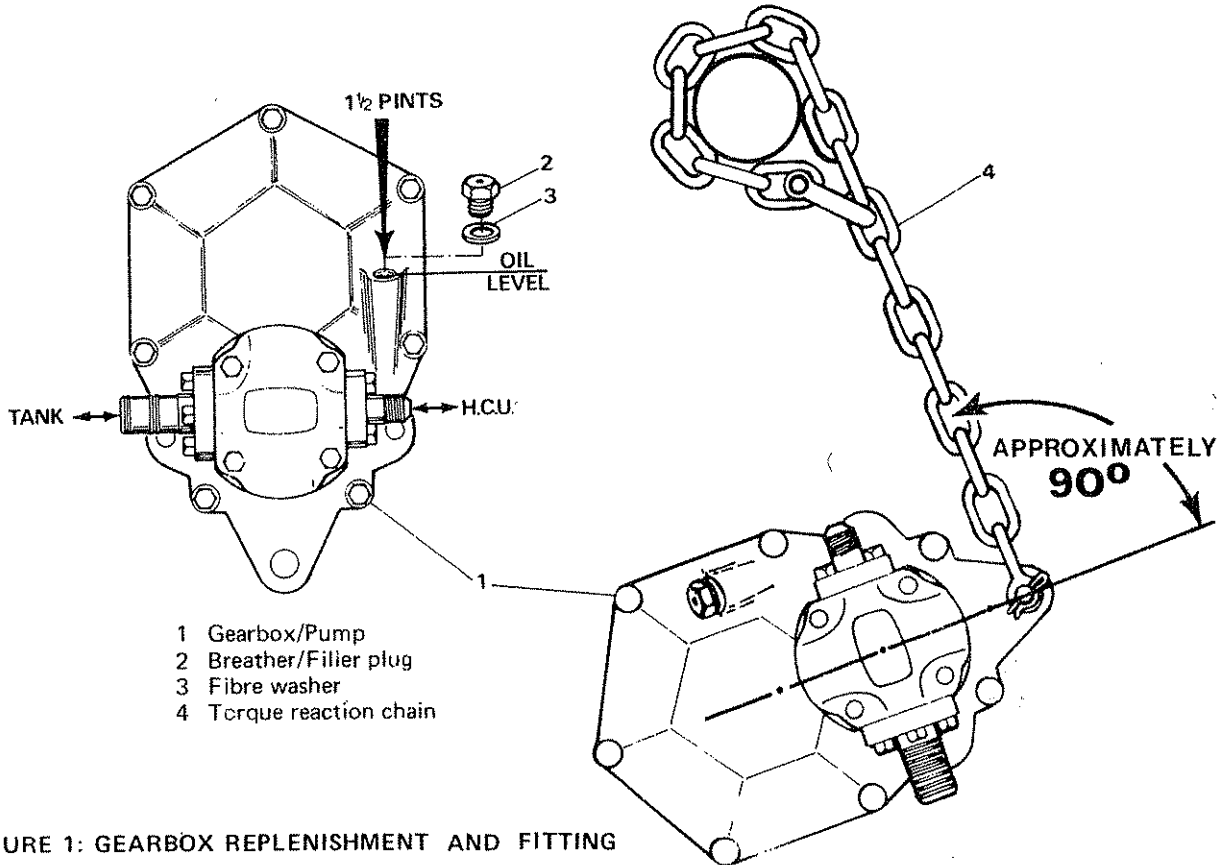
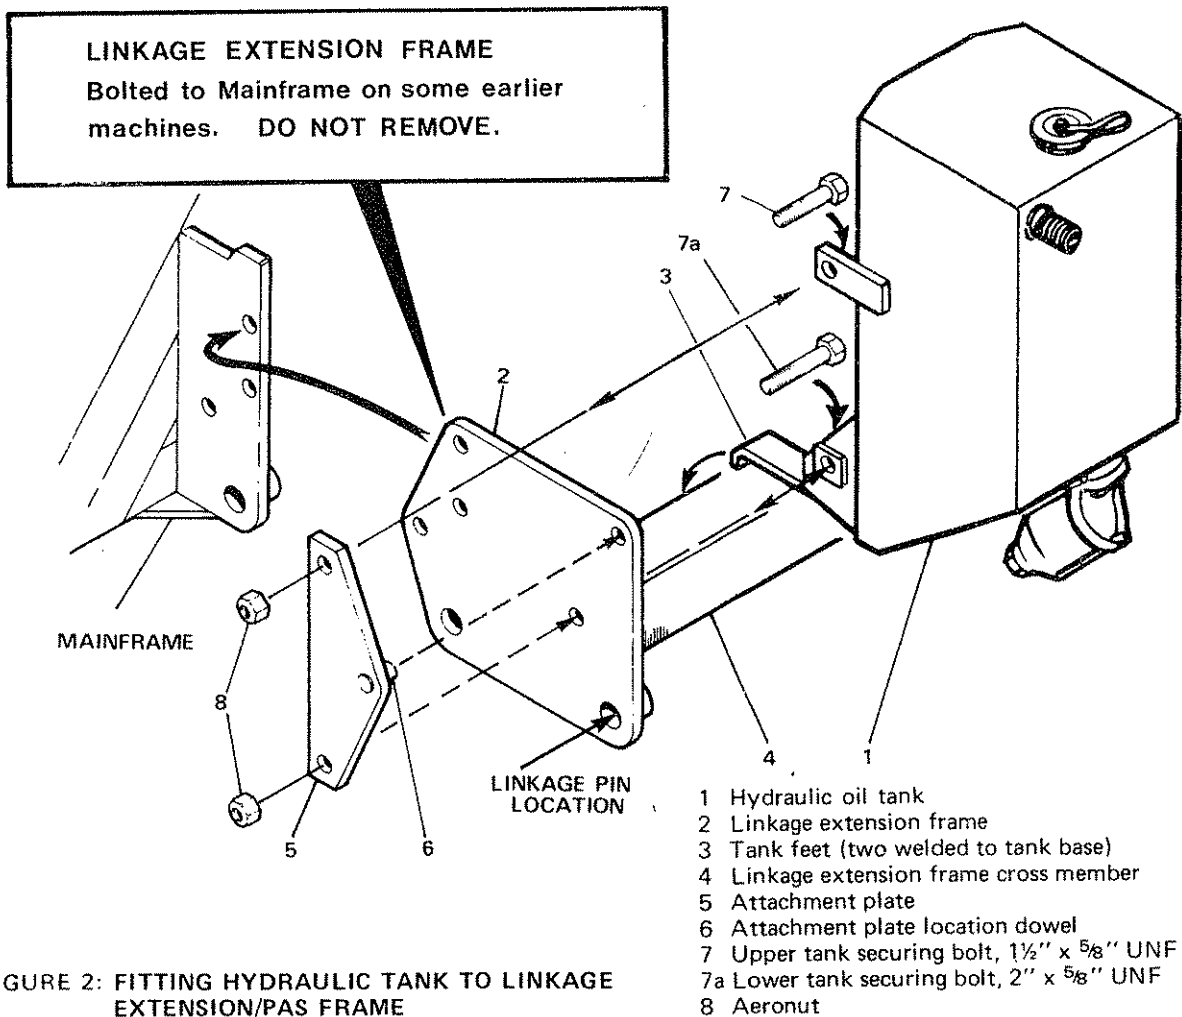

FIGURE 1: GEARBOX REPLENISHMENT AND FITTING
FIGURE 2: FITTING HYDRAULIC TANK TO LINKAGE EXTENSION/PAS FRAME
4. Refer to Figure 1.
- Remove the gearbox breather/filler plug (2) and replenish to the plug level with 1½ pints of oil, using AGRICASTROL EP 90/140 or recommended equivalent. Refit the breather/filler plug, ensuring that the sealing fibre washer (3) is fitted.
- Attach the torque reaction chain (4) to a suitable location on the tractor ensuring that the gearbox/chain centre lines are at 90 degrees.
5. Refer to Figure 2.
- The hydraulic tank assembly (1) can be fitted inside the PAS linkage extension frame (2) at either side, with the hose outlets and return filter facing towards the tractor.
- Select the side to which the tank assembly is to be mounted and position the tank with the two feet (3) correctly engaged onto the linkage extension frame crossmember (4).
- Position the attachment plate (5) outside the linkage frame, ensuring correct dowel location (6).